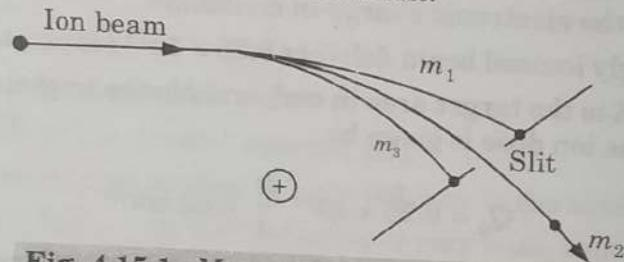

Fig. 4.15.1. Mass separation through a slit.
9. Trajectories for three different masses are shown in Fig. 4.15.1.